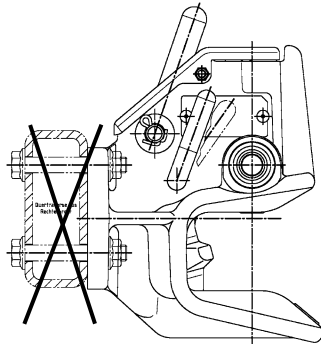

Fig. 6
- The fastening of the hitch to a hollow profile with inserted fastening bolts **is not permitted** (see Fig. 6).